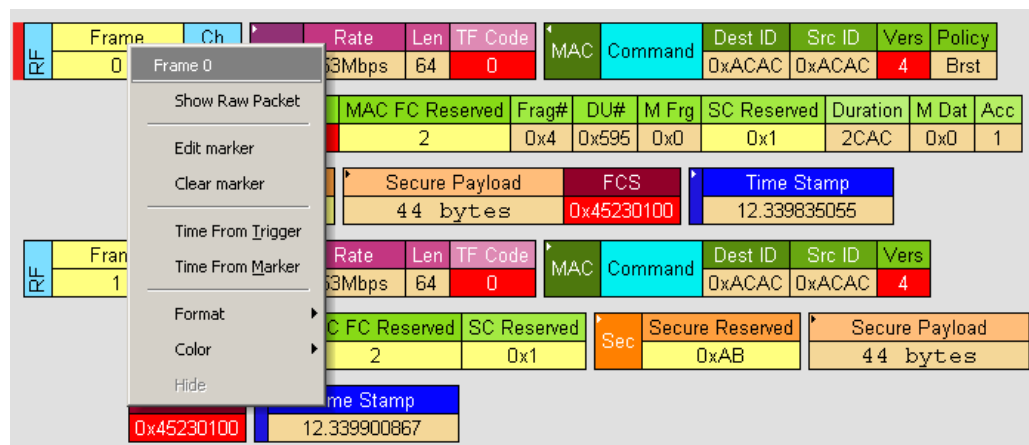

Figure 3.22 Editing a Frame Marker
Step 1 Click **Frame #** for the chosen packet to display a pop-up menu (Figure 3.22).
Step 5 To clear a marker, click **Clear marker** in the frame pop-up menu (Figure 3.22). The vertical red Marker bar disappears.
Step 2 In the pop-up that appears (Figure 3.22), select **Time from Marker** to display the Timing and Bus Usage Calculator. The first point is in the From Frame field.